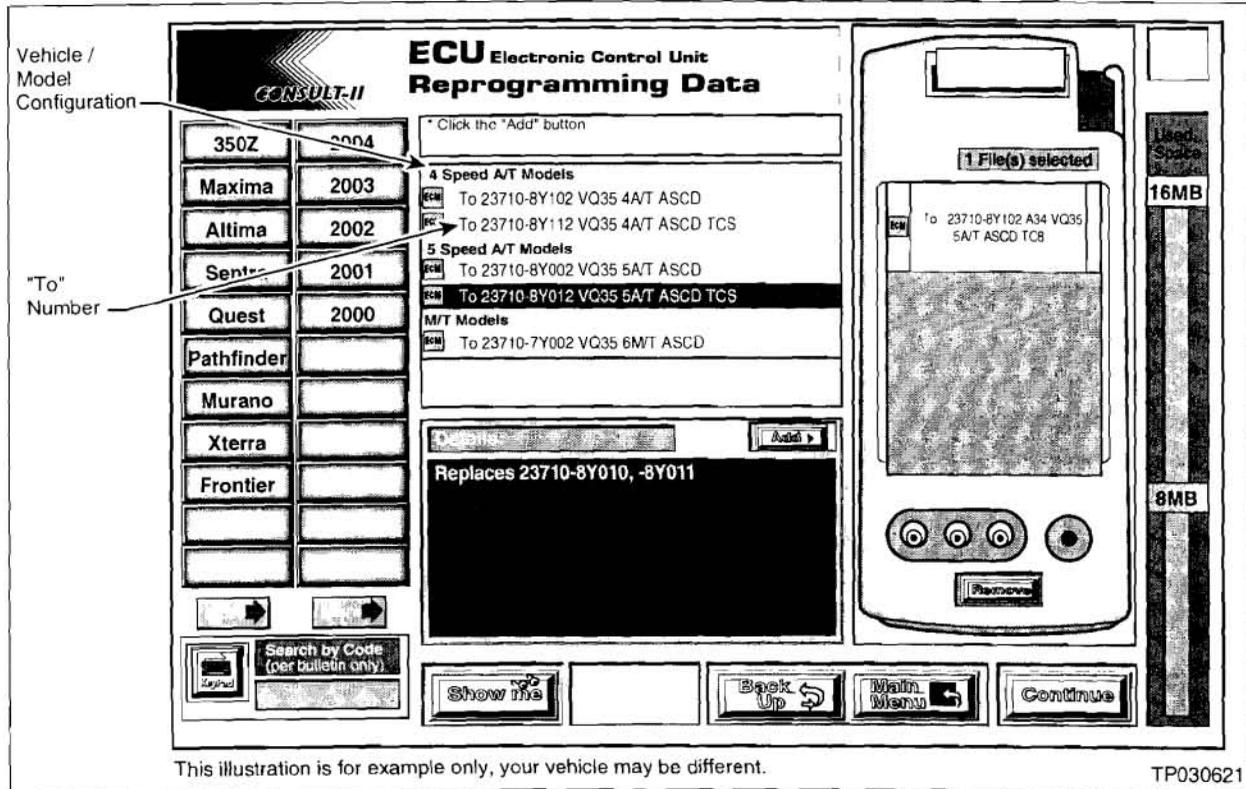

Figure A6
7. Select the "ECU REPROGRAMMING DATA" (see Figure A6) as follows: